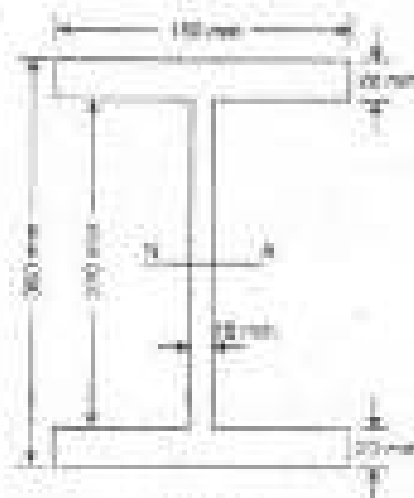

Fig. 4
b) An I-section beam $350 \text{ mm} \times 150 \text{ mm}$ has a web thickness of 10 mm and a flange thickness of 20 mm (Fig. 4) If the shear force acting on the section is 40 kN , find the maximum shear stress developed in the I-section. Also sketch the shear stress distribution across the section. [9]